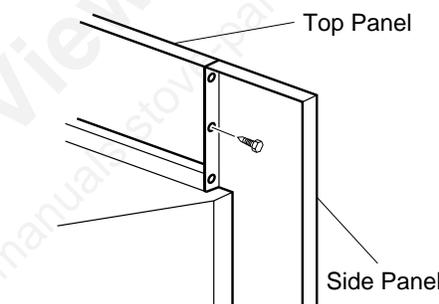

Figure 9 - Attaching Side Panels to Top Panel (GS43 Pictured)
6. For model GS43, align six screw holes in side panels with holes in top panel (see Figure 9). For model GS38, align two screw holes in side panels with holes in top panel (see Figure 9). Insert and tighten screws.